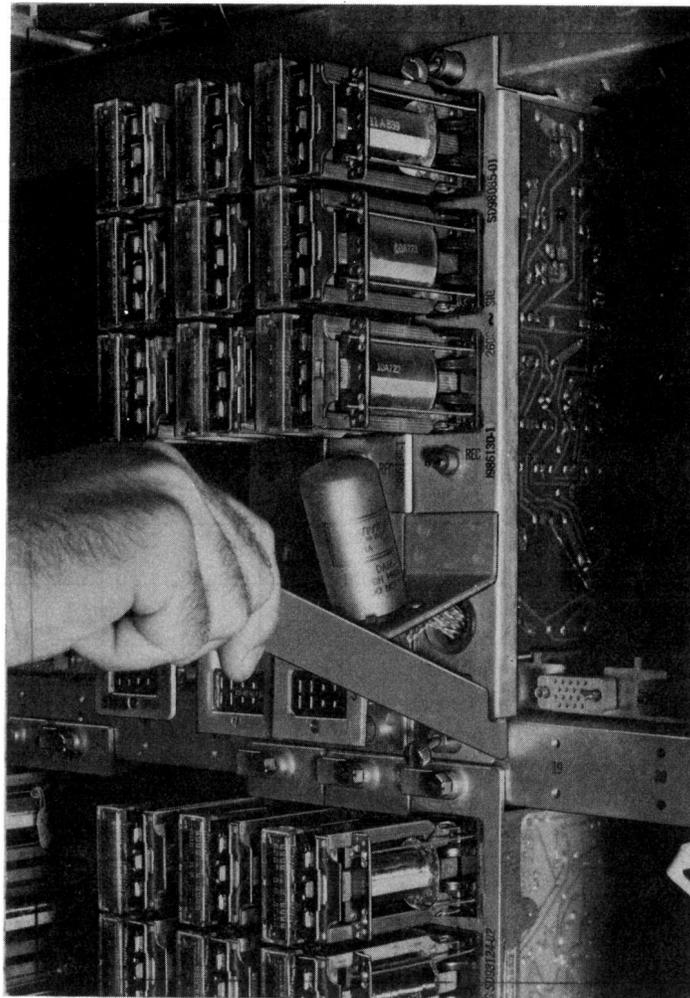
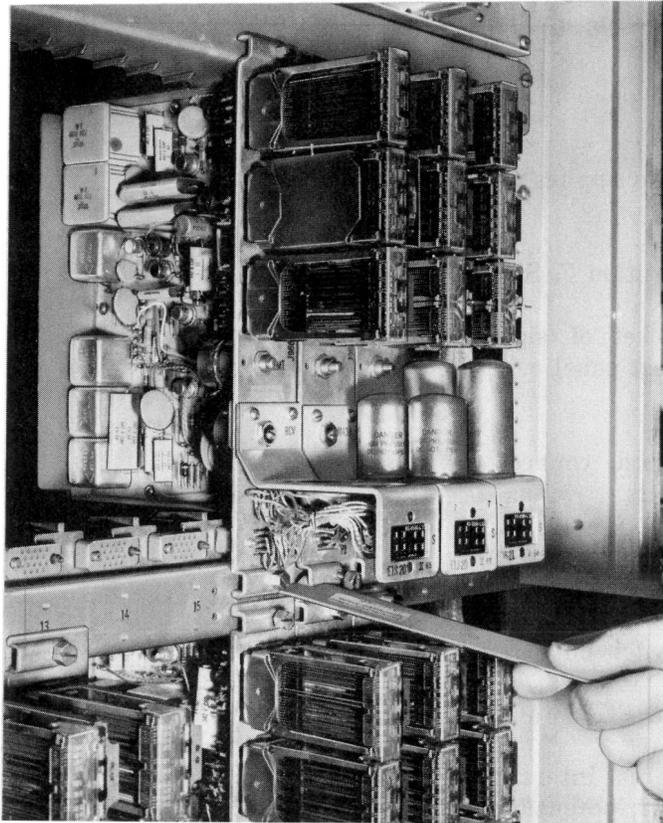

Fig. 1—Method of Removal of Fabricated Chassis
Fig. 2—Method of Removal of Die Cast Chassis
- 4 Remove signal circuit from its in-service position, using 725A tool, as shown in Fig. 1 or Fig. 2.